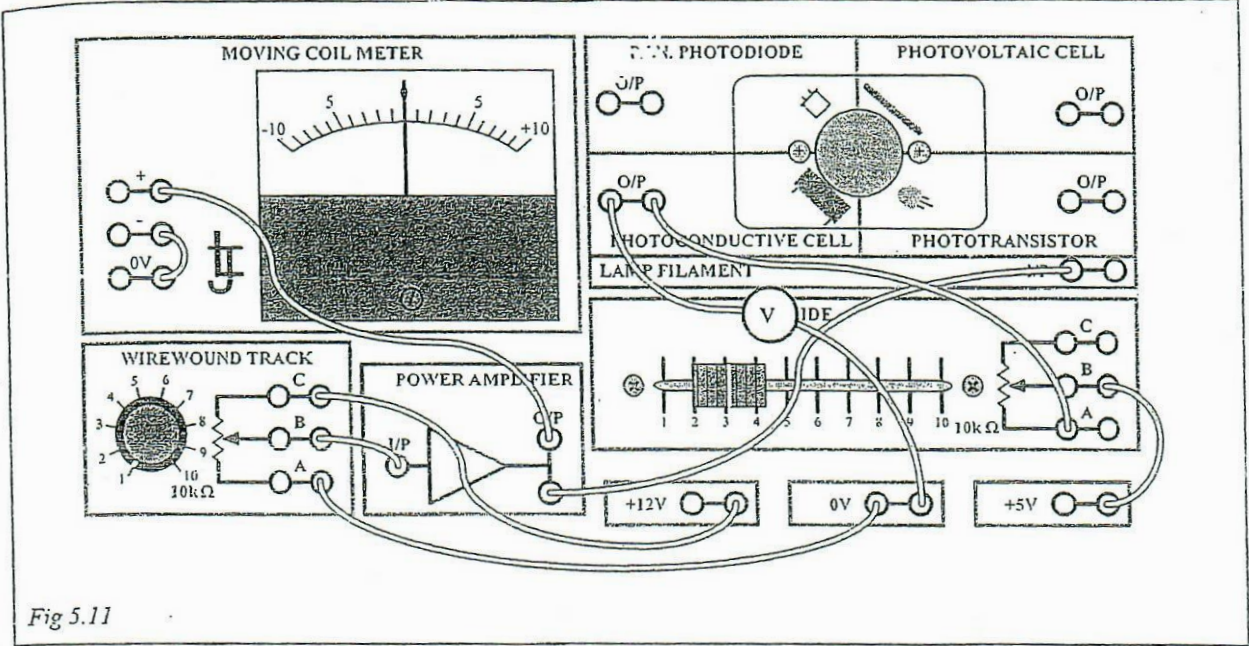

Fig 5.11
- Connect the circuit as shown in Fig 5.11 and set the 10kΩ carbon slider control to setting 3 so that the Photoconductive Cell load resistance is approximately 3kΩ.